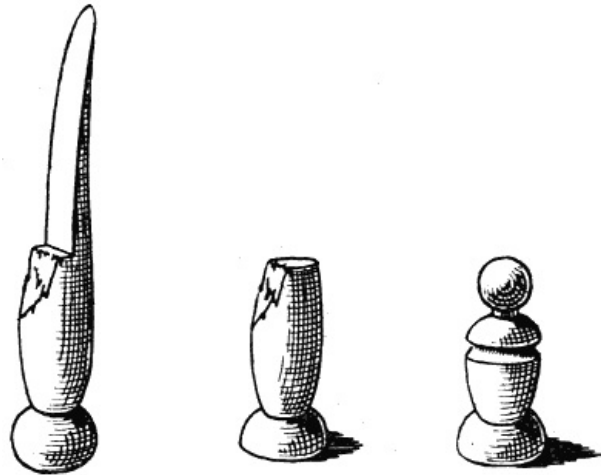

FIG. 32.
*Chess Men.*—The pegs must be sawn across cleanly just through the centre of the knob end: they will then stand upright. A few clean cuts with a pocket-knife will quite easily suggest a king or a castle or a bishop. The knight will, of course, provide most in the way of difficulty—as he is generally shown with a horse's head. A few painstaking attempts, however, should result in the obtaining of a credible likeness. Fig. 32 shows the construction of a "pawn."